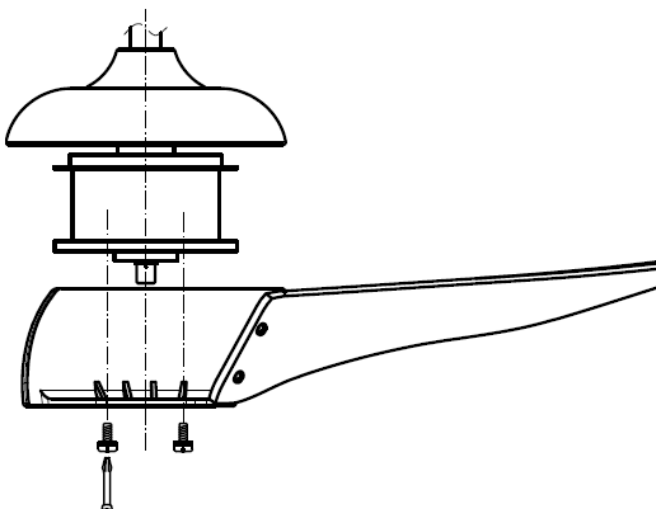

Fig. 8
- Install the blade assemblies to the motor by tightening the 2 motor screws. Fig.8